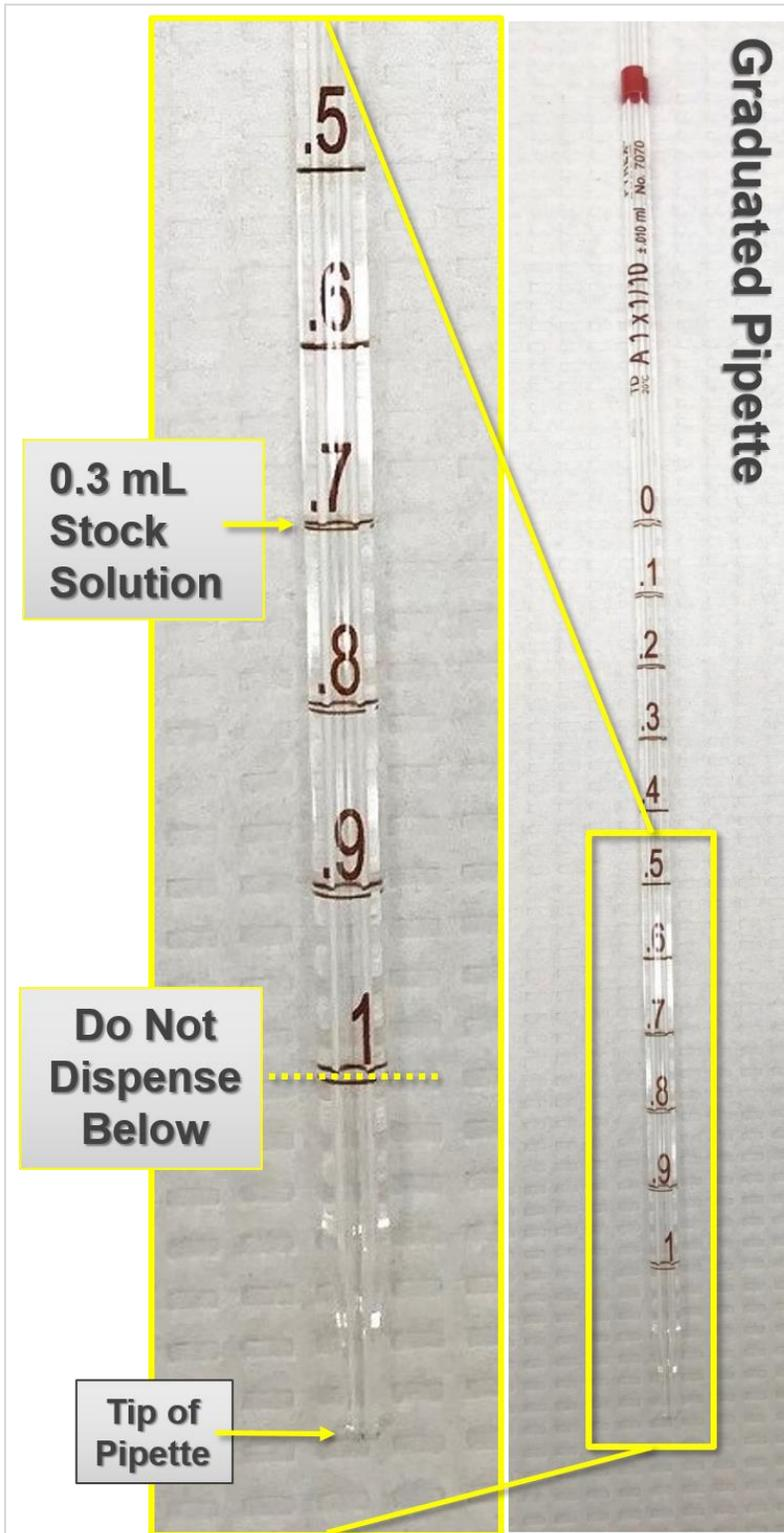

Figure 73. Graduated pipette use for fDOM calibration solution
- For graduated pipettes, do not dispense below the 1 mL measurement line. The measurement is a differential between two markings. Reference **Figure 73** for a reference of these measurement lines.
**STEP 2** | Prepare the 300 ug/L fDOM calibration solution. Fill the flask approximately half way with 0.1 N H2SO4. Dilute 0.3 mL of stock solution into the 1000 mL volumetric flask (**Figure 73**).